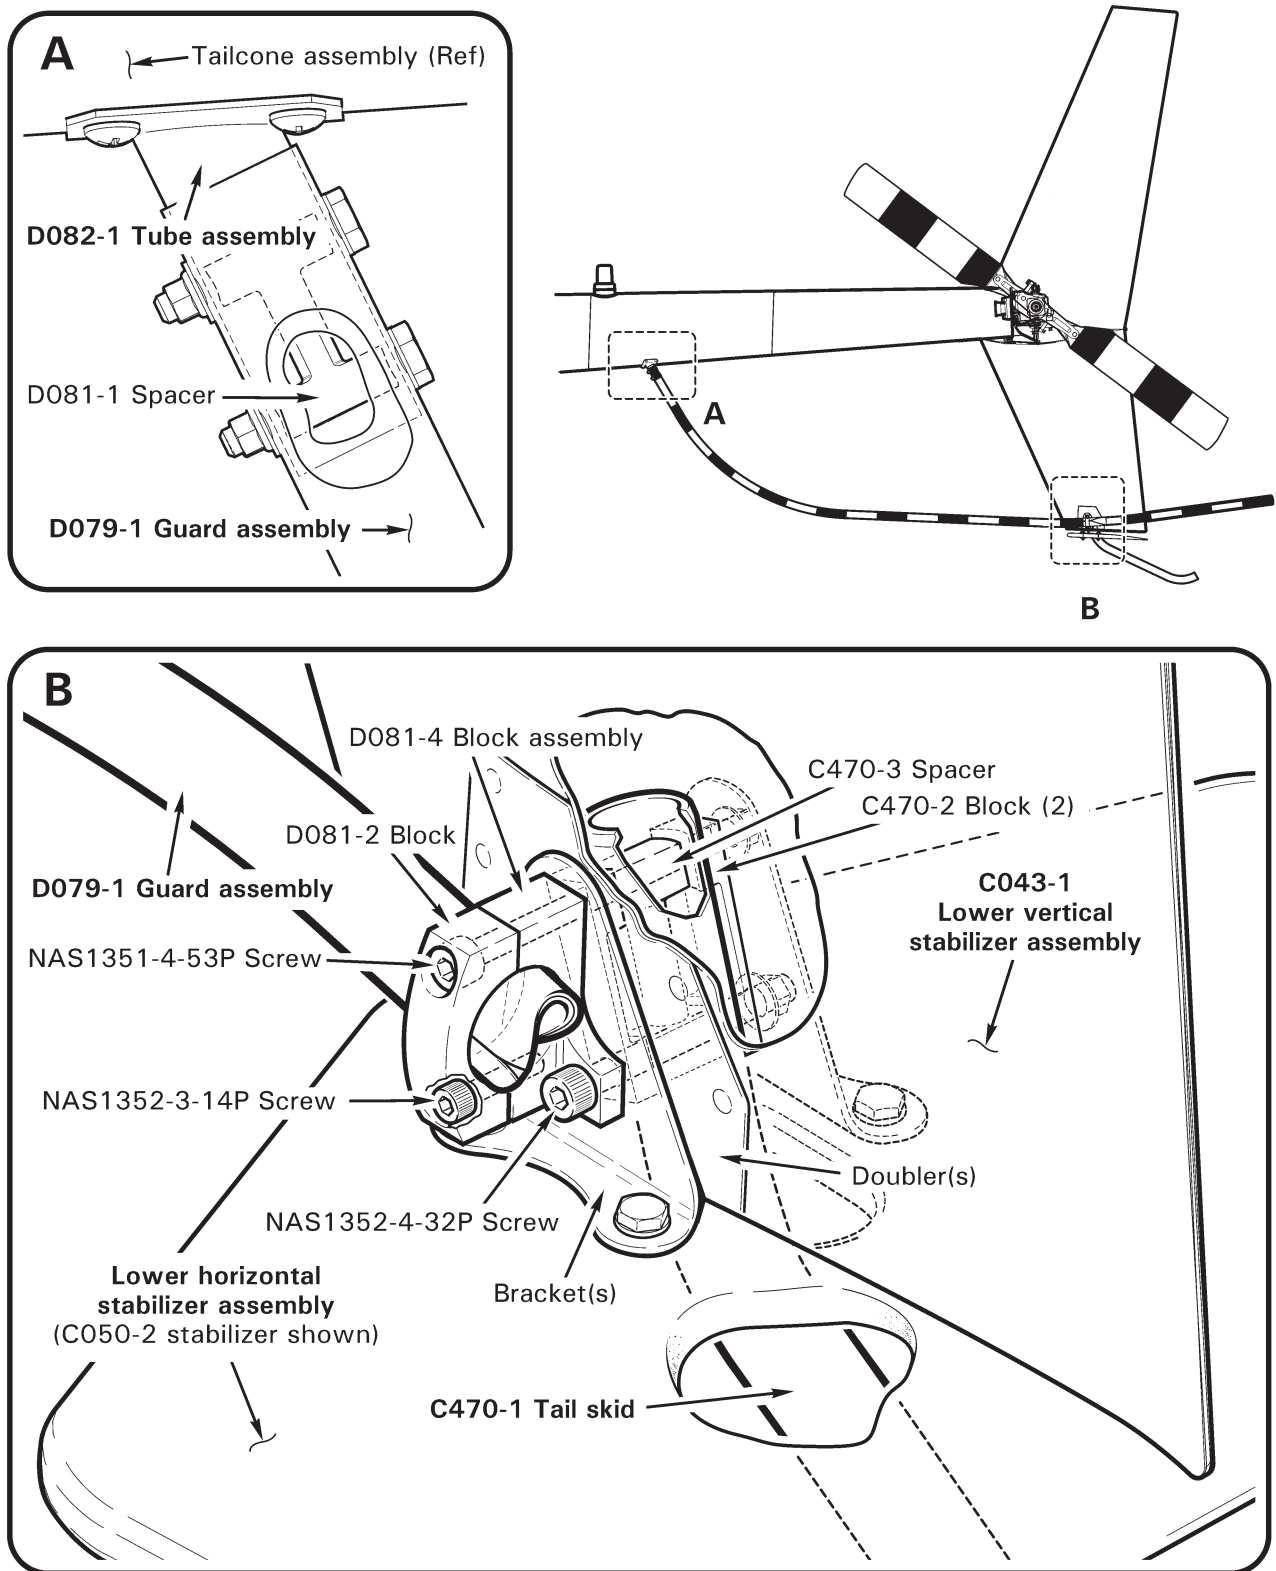

FIGURE 53-7 EMPENNAGE - TAIL ROTOR GUARD
2. Refer to Figure 53-7. Using plastic scraper, remove sealant around edges where lower horizontal stabilizer assembly brackets attach to lower vertical stabilizer assembly doublers. Remove lower horizontal stabilizer assembly.
1. Refer to Figure 53-7. Position lower horizontal stabilizer assembly on lower vertical stabilizer assembly and install tail skid per § 53-54.
1. Refer to Figure 53-7. Loosen two (forward) fasteners securing D081-2 block and D079-1 guard assembly to C043-1 lower vertical stabilizer.
1. Refer to Figure 53-7. Loosen two (forward) fasteners securing D081-2 block to C043-1 lower vertical stabilizer, if not previously accomplished. Insert D079-1 guard assembly aft through blocks.
1. Refer to Figure 53-7. Support D079-1 guard assembly. Remove hardware securing D081-2 block to C043-1 lower vertical stabilizer and remove block.
1. Refer to Figure 53-7. Install C470-3 spacer inside C470-1 tail skid. Install tail skid and two C470-2 blocks inside C043-1 lower vertical stabilizer. Install D081-4 block assembly, and install hardware securing block assembly to stabilizer. Standard torque screw per § 20-32, and torque stripe per Figure 5-1.